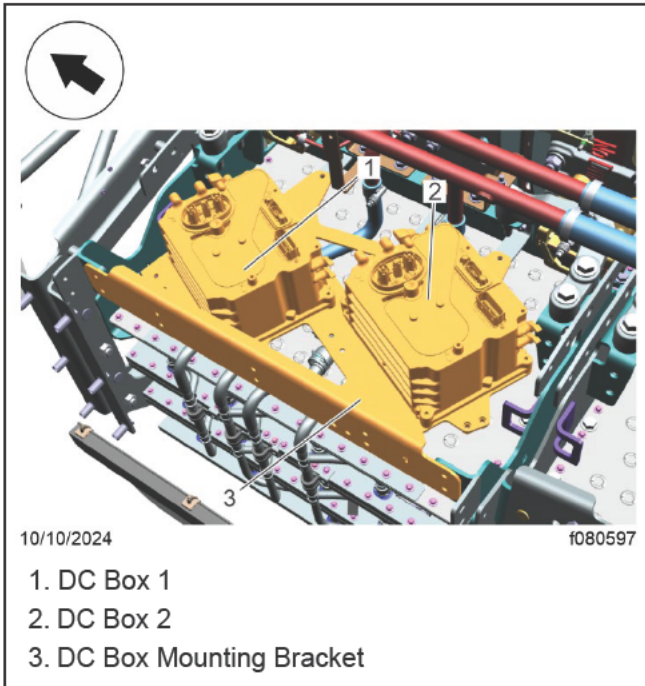

Fig. 2, DC Box Mounting Bracket
15. Remove the DC box mounting bracket fasteners. See Fig. 2.
44. Install the DC boxes and bracket on the vehicle. See Fig. 2.